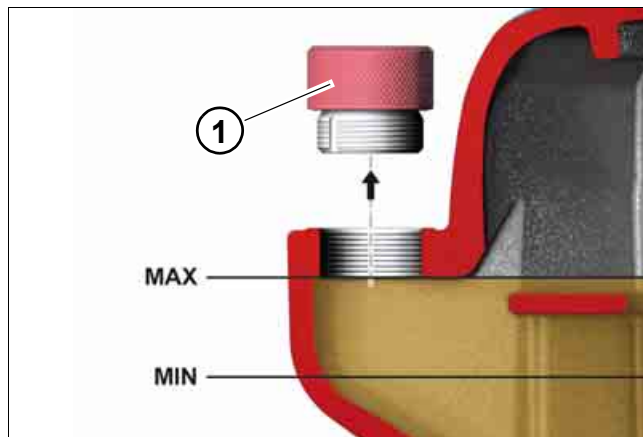

Figure 7-1 Oil level check via oil filler opening (sample depiction)
- Via the filler neck on the separating tank, add oil up to the maximum level and screw the screw plug **1** firmly onto the filler neck by hand (see Fig. 7-1).